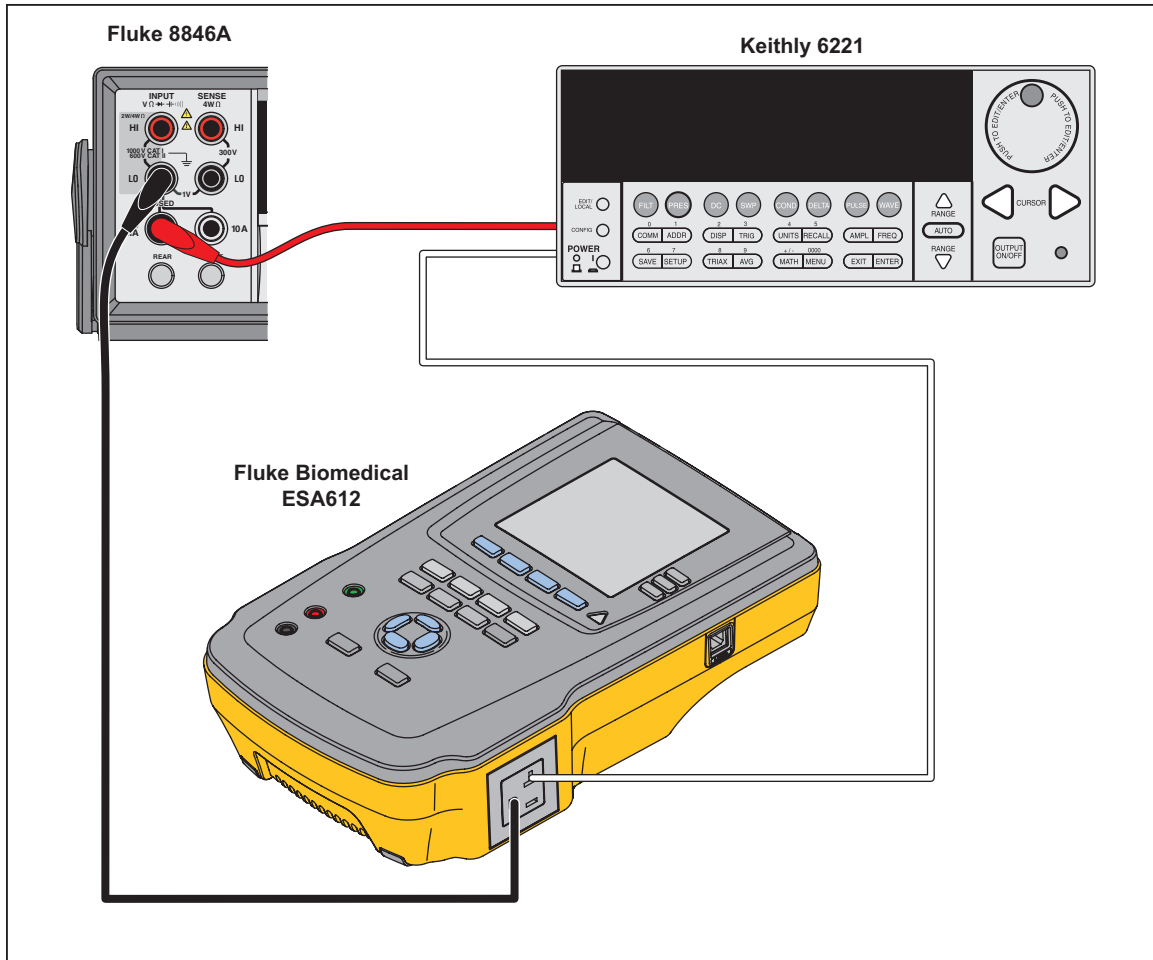

Figure 3-16. Differential Leakage Verification Connections
1. Connect the current source to the EO Neutral and the DMM 400 mA current input jack. Connect the DMM Input (-) to the EO ground. See Figure 3-16. Set the current source to 76.00 μ A (107.48 μ A p-p), 100 Hz, with a 25 V compliance voltage, and the DMM to the 100 μ A ac range.